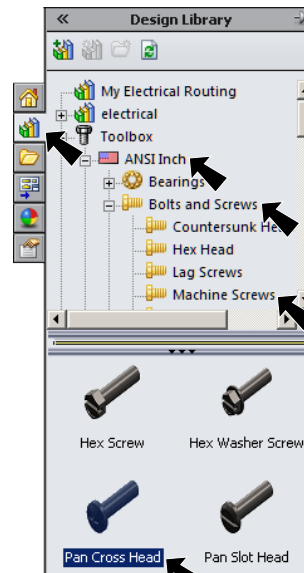
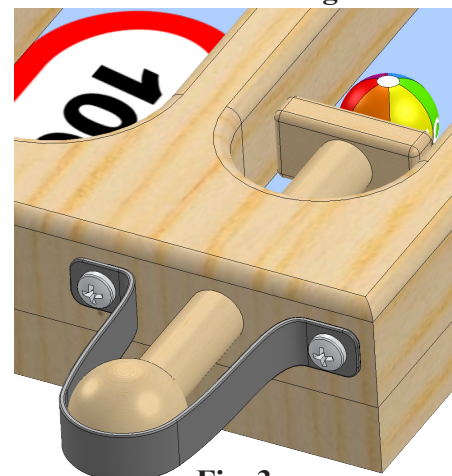

Fig. 2
Fig. 3
Step 1. Click the **Design Library** tab  in the Task Pane (right side of graphics area), **Fig. 2**.
Step 3. In the lower pane, click the **Pan Cross Head** screw, **Fig. 2**. Drag screw towards a hole in Elastic Strip. Move the **tip of your cursor to the edge of a hole**, **Fig. 3**. When the screw snaps into place and cursor changes to  concentric and coincident mate, release the screw.
Step 5. Add screw to other hole, **Fig. 3**. Click **Cancel**  when done.